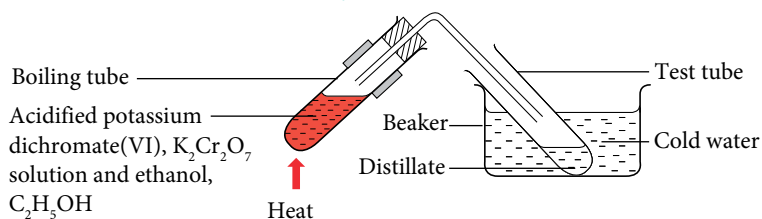

Figure 2.13
- Connect the delivery tube to the boiling tube as shown in Figure 2.13. Heat the mixture with a gentle flame until the mixture boils.